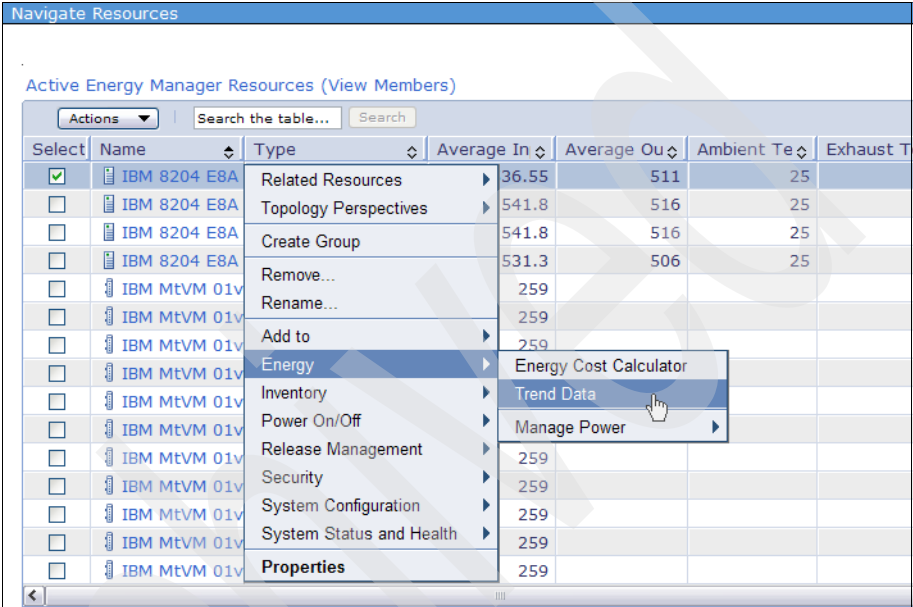

Figure 6-40 Viewing trend data for an Active Energy Manager resource - 1
2. Right-click a resource, and select **Energy** → **Trend Data** (Figure 6-40).